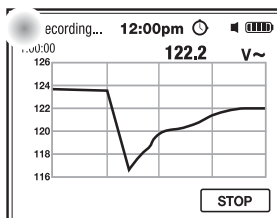

Fig. 10
- To end the recording before the preset duration, press the **F4 STOP** soft key (Fig. 10).